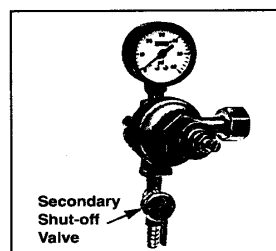

Fig. 9
- Before doing that, make sure the secondary shut-off valve is closed, as shown in figure 9. To open the main CO₂ cylinder valve, slowly turn the main valve counter-clockwise until fully open.